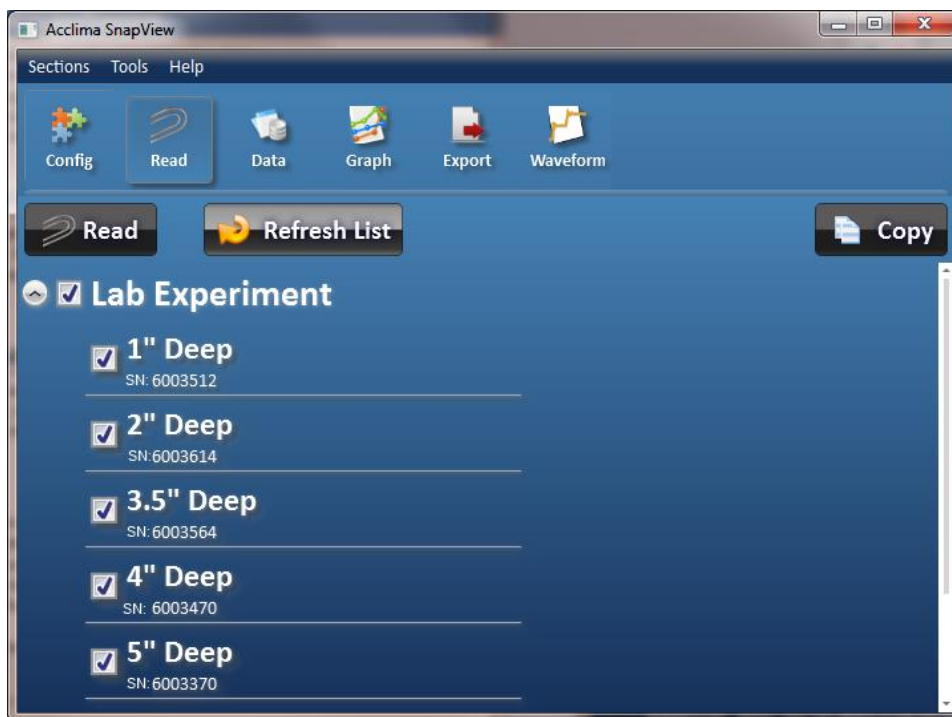

Figure 15 - Initial Read Sensor Screen
- **System Time** – This sets the system time on the DataSnap. The DataSnap's current time will be displayed. Click the 'Synchronize' button to set the time on the DataSnap to the same time as the connected PC. See figure 15.